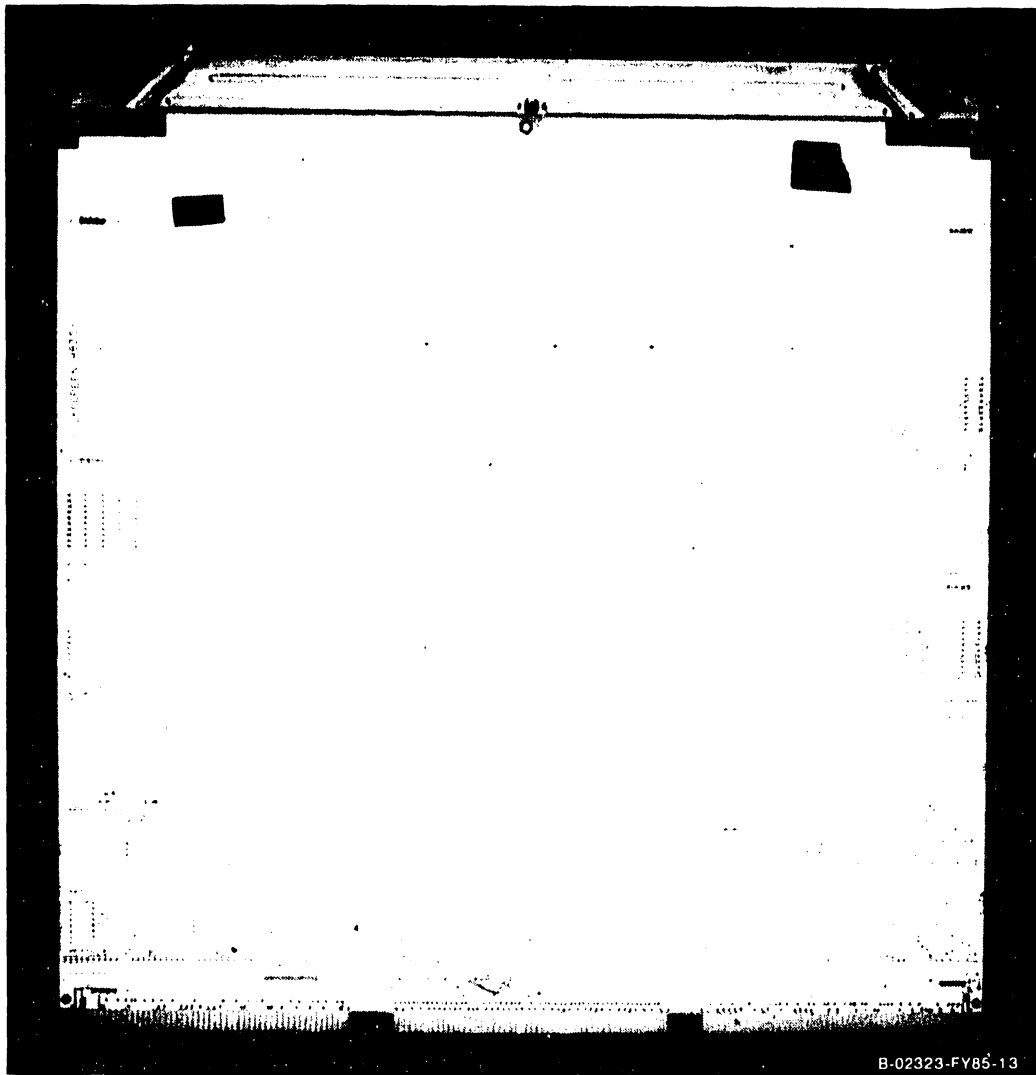

Figure 7-18. 210-8835 Support Control Unit
1. Remove the Support Control Unit (SCU) (figure 7-18) from backplane slot #5 as described in paragraph 7.2.4.1. There are no cables, switches, or jumpers on the SCU.